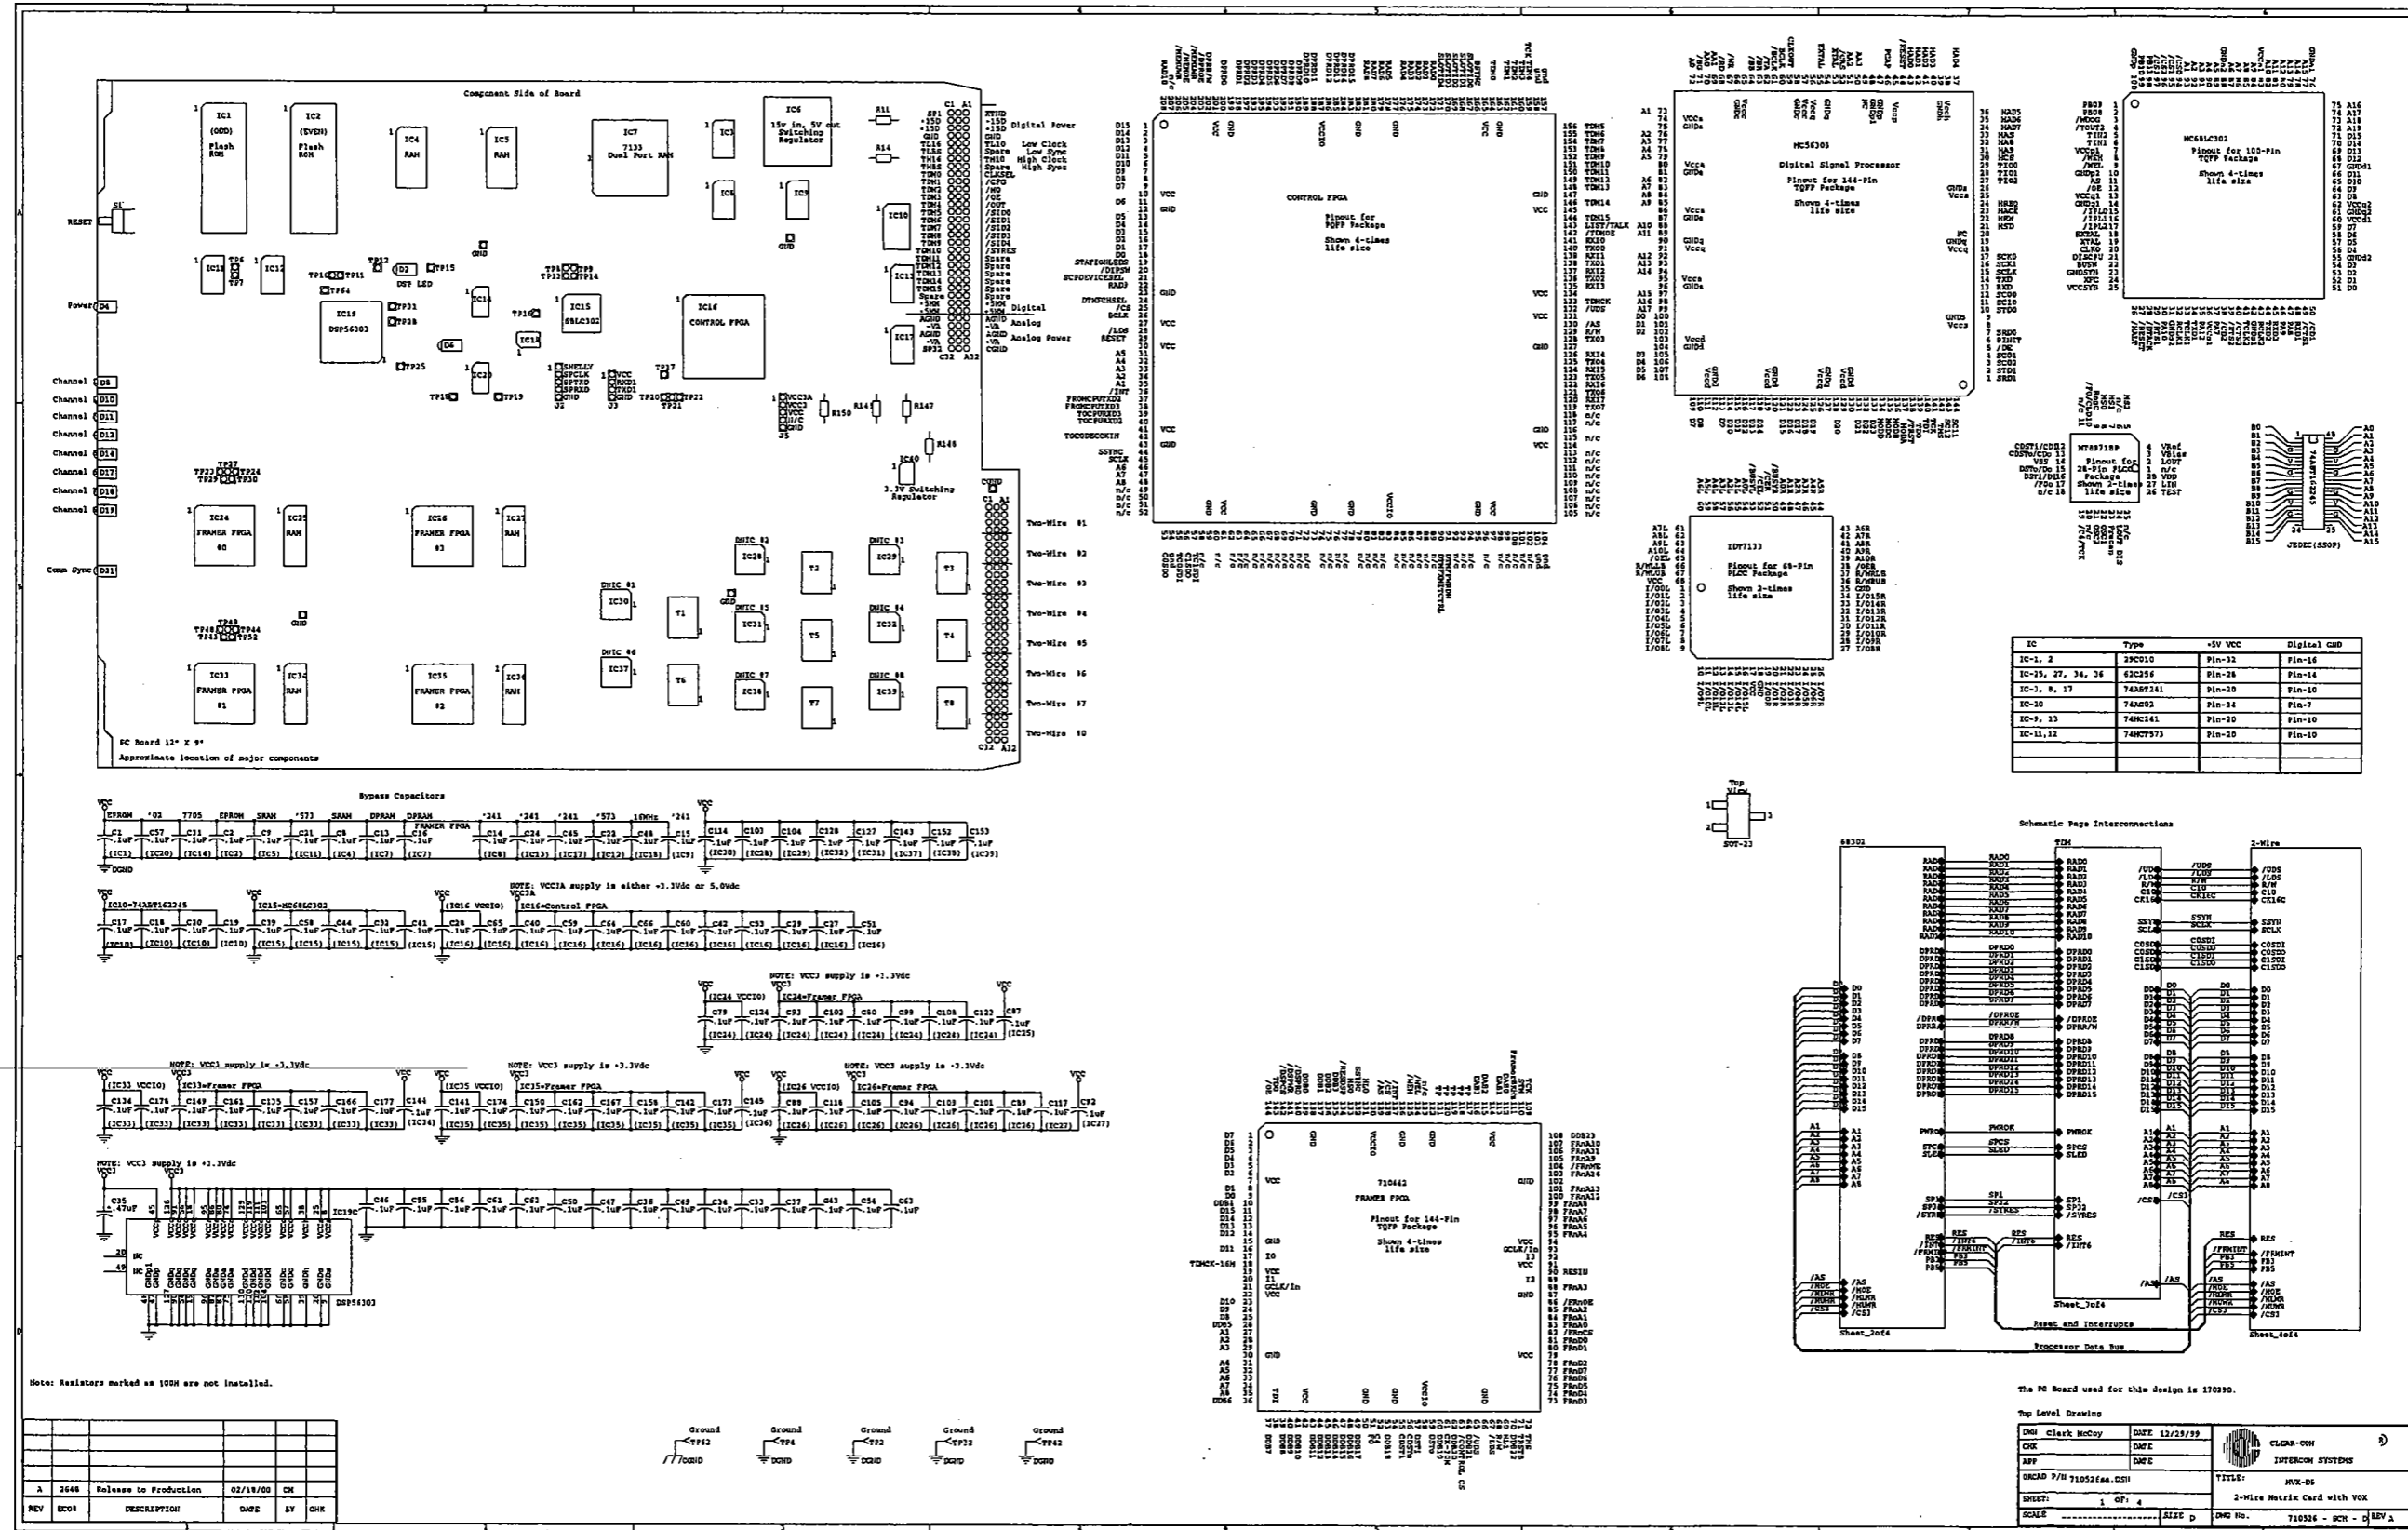

FIGURE M3-3: Schematic— MVX-D8 PCB Sheet 1, Rev. A
- Sheet 1 (Figure M3-3 on page M3-7) contains the interconnection diagram of the remaining three sheets, most of the bypass capacitors of the board, and some reference drawings for most of the large surface mount chips.